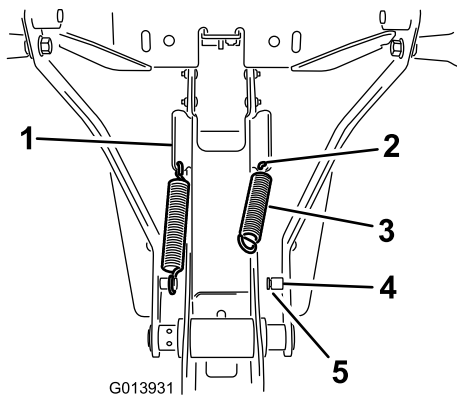

Figure 8
- Install the spring in the hole in the lower end of the angled tab on the side of the frame assembly (Figure 8).
2. Hook 1 end of the spring into the hole and the other end onto the spring post (Figure 8).
3. Make sure that the spring end is seated properly in the groove in the post (Figure 8).